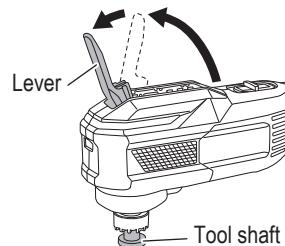

Fig. 8
- (1) Pull the lever up. (Fig. 8)